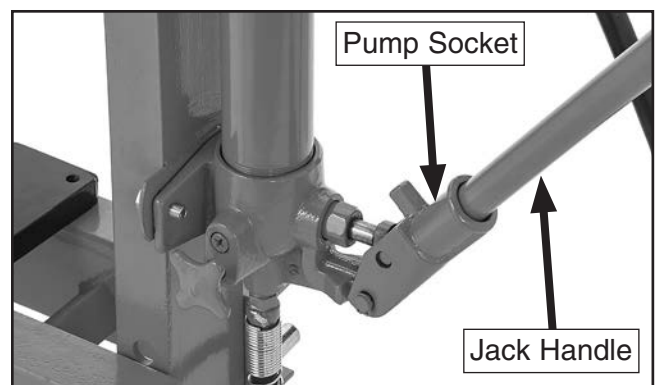

Figure 16. Jack handle threaded into pump.
19. Thread the jack handle into pump socket, as shown in **Figure 16**.